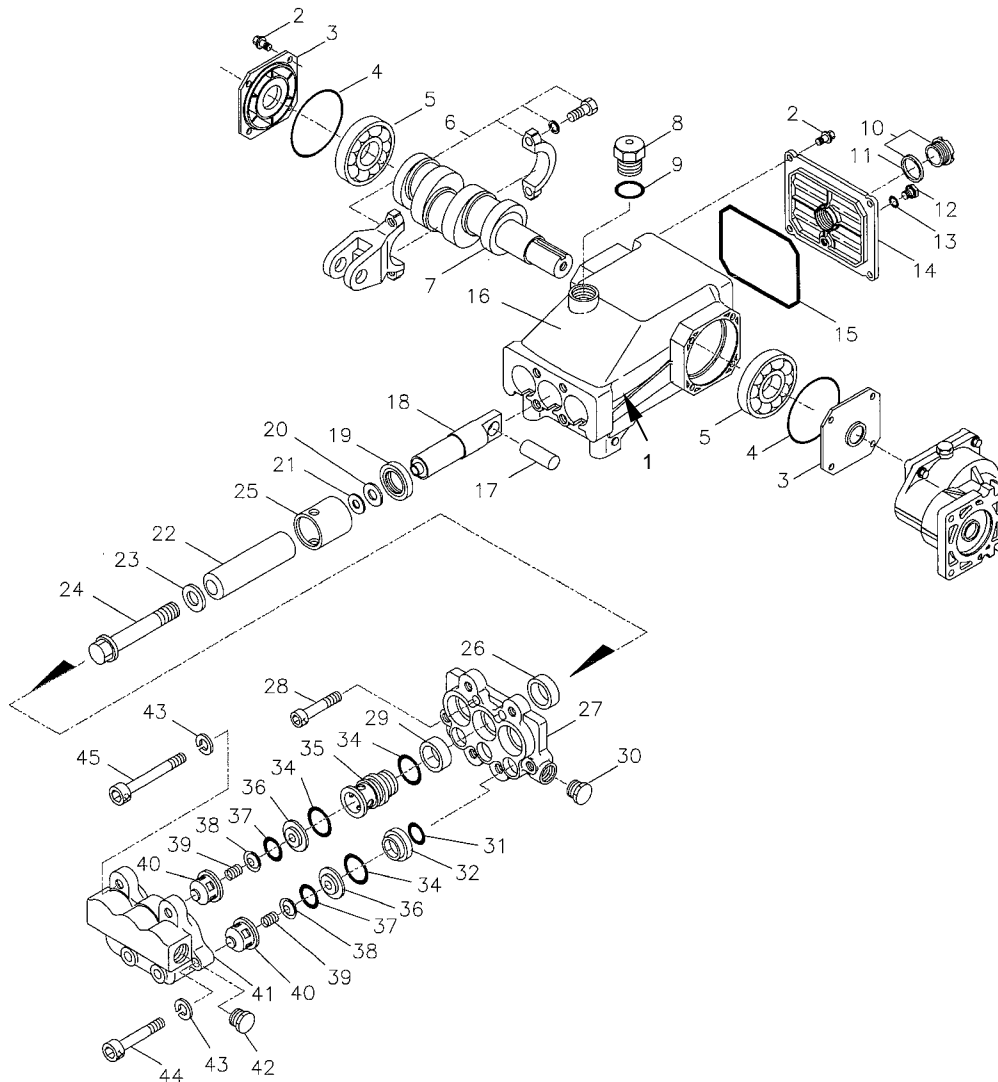

Figure 2. High-Pressure Pump (Exploded View).
5. Remove three inlet valve adapters (32) with inner (31) and outer (34) O-rings from the three small diameter and shallow inlet chambers in the discharge manifold (41). Refer to Figure 2.